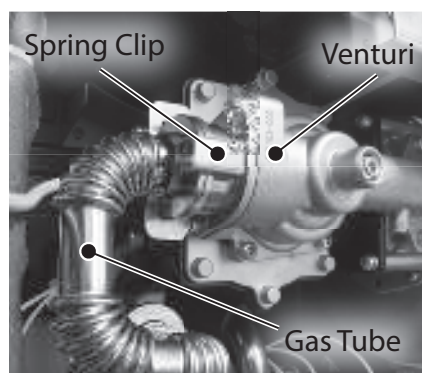

Figure 98 - Remove upper spring clip
9 Locate the upper spring clip securing the gas tube to the venturi as shown in Figure 98. Note the orientation of the upper spring clip securing the gas tube to the venturi. Remove spring clip and place it aside in a safe place for
- 20** Install gas tube to venturi and locate spring clip previously removed in **Step 9**. Orient spring clip properly as shown in Figure 98. Install spring clip to secure the gas tube to the venturi. Confirm gas connection is tight and will not leak.